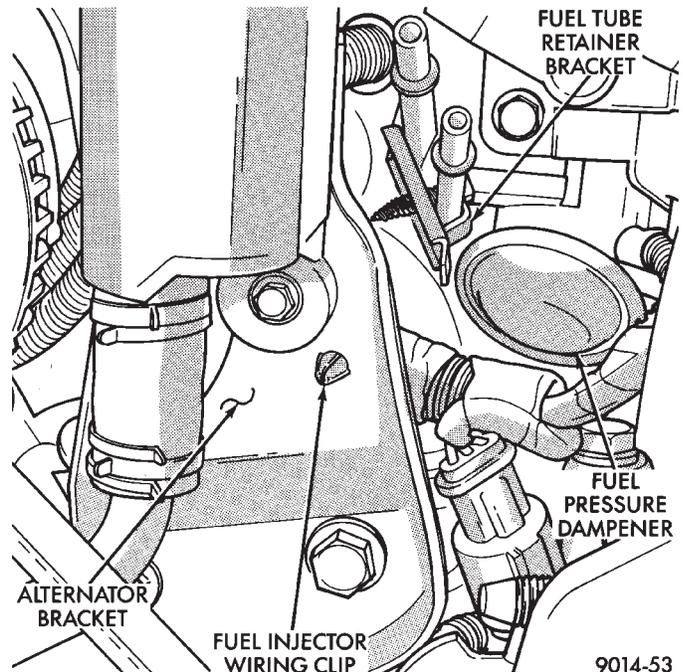
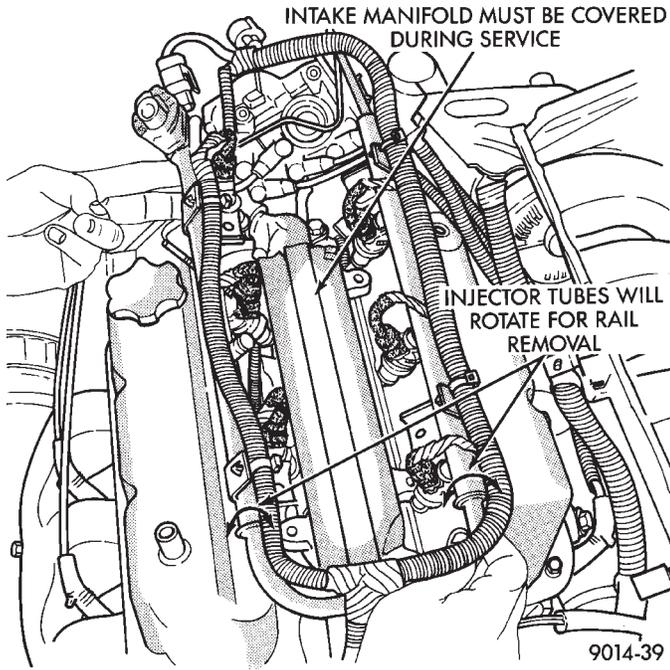

Fig. 11 Fuel Injector Wiring Clip
Fig. 12 Fuel Rail Removal
(18) Remove fuel rail injector wiring clip from the alternator bracket (Fig. 11).
(19) Disconnect cam sensor, coolant temperature sensor, and engine temperature sensors (Fig. 11).
(20) Remove fuel injector wiring clip from intake manifold water tube.
(21) Remove fuel rail. Be careful not to damage the rubber injector O-rings upon removal from their ports (Fig. 12).
(7) Put the tip of each injector into their ports. Push the assembly into place until the injectors are seated in the ports (Fig. 12).
(10) Reconnect cam sensor, coolant temperature sensor and engine temperature sensors (Fig. 11).
(11) Install fuel injector harness wiring clips on the alternator bracket and intake manifold water tube (Fig. 11).
(12) Connect fuel pressure regulator vacuum line.
(13) Remove covering on lower intake manifold and clean surface.
(14) Place intake manifold gasket on lower manifold. Put upper manifold into place and install bolts finger tight.
(15) Install the alternator bracket to intake manifold bolt and the cylinder head to intake manifold strut bolts. (Do not torque.)